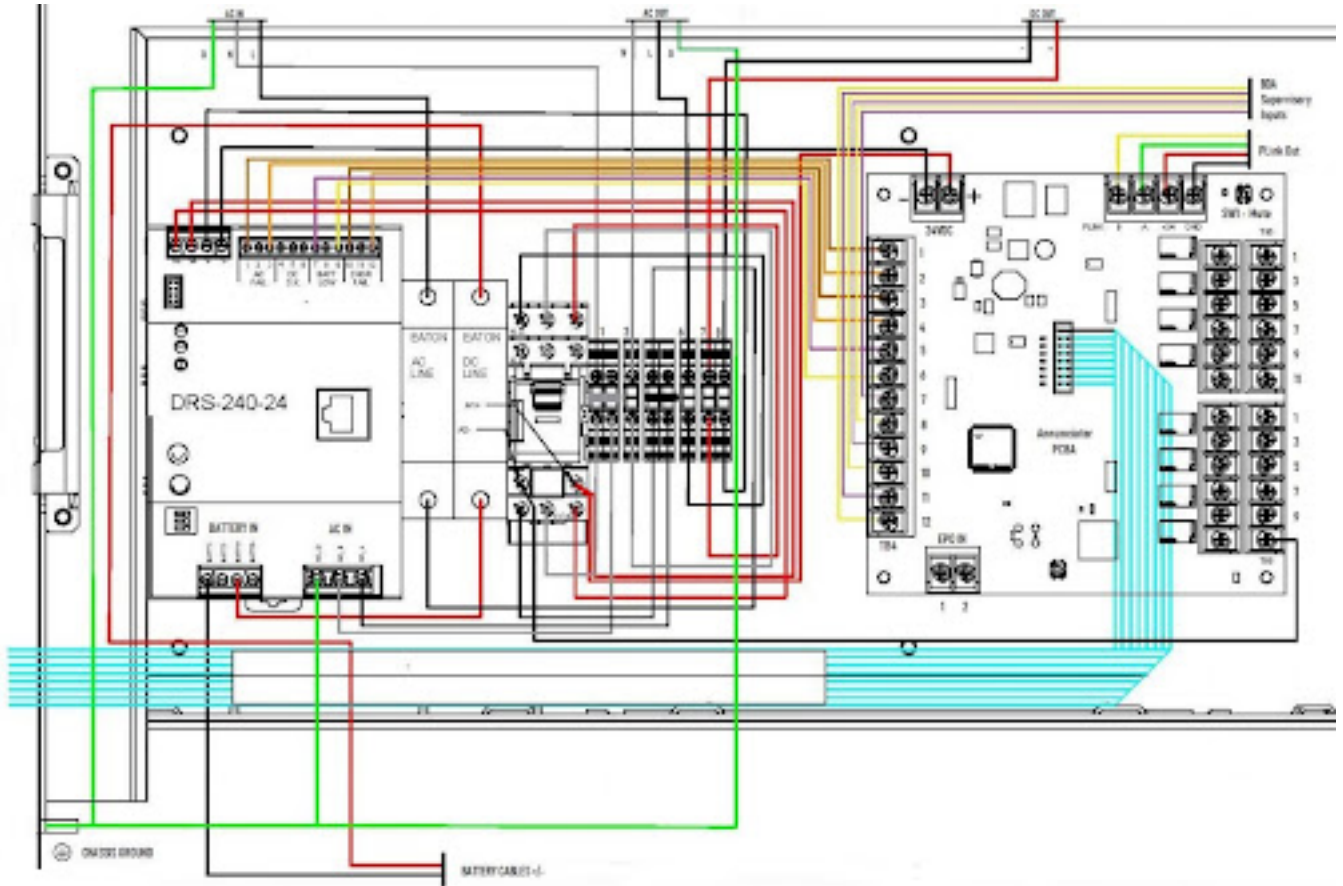

Figure 5
The Guardian BBU also provides an integrated UL2524 3rd edition and NFPA 1225 compliant annunciator function with LED supervisory indications on the front door assembly. An associated audible sounder is also provided for each supervisory indication that can be silenced via a mute button (SW1 – Annunciator PCBA, see Section 7.3 Figure 5) located within the lockable enclosure. The audible alarm will resound if muted every 24 hours until the supervisory condition is resolved.
5. Connect AC Input (115VAC-220VAC 50/60Hz) power cable to the BBU AC Circuit Breaker Load (L), DIN rail mounted terminal block Neutral (N), and enclosure labeled Ground (G) post as shown in Section 7.3 Figure 5 and described in Section 7.3.1 Item 1. The AC source must comply with all local and national building and fire codes. **DO NOT ENGERGIZE THE CIRCUIT UNTIL ALL CONNECTIONS BELOW ARE MADE AND VERIFIED.**
6. If required, connect the Guardian BDA to the BBU AC Output using the AC power cable supplied with the BDA (some Guardian BDA products require both AC IN and 24VDC). Connect the BDA power cable ground (G) to the labeled enclosure GND point (see figure 5), then connect the power cable Neutral (N) and Load (L) terminals to the respective DIN rail mounted terminal blocks as shown in Section 7.3 Figure 5 and described in Section 7.3.1 Item.
7. Connect the Guardian BDA to the BBU 24VDC output using the power cable supplied with the BDA. Connect the power cable (+/- DC) wires to the BBU DIN rail mounted terminal blocks as shown in Section 7.3 Figure 5 and described in Section 7.3.1 Items 2 and 3.
8. Connect the Guardian BDA dry contact alarm output (DONOR MALFUNCTION, RF EMITTER FAILURE, SYSTEM COMPONENT FAILURE) to the Annunciator PCBA alarm inputs as shown in Section 7.3 Figure 5 and Section 7.3.1 Item 5. The BDA supervisory alarm status will be shown on the front panel annunciator LED's in conjunction with an audible sounder.
9. If required by the AHJ, connect an EPO switch as shown in Section 7.3 Figure 5 and described in Section 7.3.1 Item 8. The EPO switch must be a latching type to work correctly. The EPO switch is not included with the BBU and must be purchased separately.
10. If remote annunciator(s) are required by the AHJ, connect the Potter Remote Annunciator panel to the Annunciator PCBA Plink connector as shown in Section 7.3 Figure 5 and described in Section 7.3.1 Item 6. The Potter P-link 4 wire RS485 interface may be used only with the Potter Guardian Annunciator. Up to 16 Guardian Annunciators may be connected in series with a maximum line length of 6500 feet.
11. If using an annunciator from another manufacturer then the remote annunciator must be connected via the Annunciator PCBA dry contact outputs. See Annunciator PCBA Section 7.3 Figure 5 and description in Section 7.3.1 Item 9 for wiring details. Refer to the manufacturer's instructions for correct installation. EOL resistors may be required and are not provided with the Guardian BBU.
12. The Annunciator PCBA dry contact outputs can be utilized to connect to an FACP via vendor specific SLC interface modules. The dry contact outputs repeat the BBU integrated annunciator status to present the individual BBU and BDA supervisory indications or optional Summary supervisory indication to the FACP. See Annunciator PCBA Section 7.3 Figure 5 and description in Section 7.3.1 Item 9 for wiring details.
Supervision Test:	Disconnect backup battery via Battery Breaker Switch (see Section 7.3 Figure 5). Make sure that LED and relays indicate Battery Low and Charger Failure. Reconnect batteries. Disconnect AC via AC Breaker Switch (see Section 7.3 Figure 5). Make sure that LED and supervisory relays indicate AC loss and Charger Failure. Detection/restoration of the fault condition may take up to 30 seconds.
Battery Test:	Under normal load conditions, check that the battery is fully charged. Check specified voltage both at the battery terminals and at the Power Supply Battery – terminal and Battery Breaker Terminal to ensure that there is no break in the battery connection wires. (See Section 7.3 Figure 5 for wiring details.)
Once installed follow the wiring instructions as shown in Section 7.3 Figure 5 and Section 7.3.1 Item 9 and the installation instructions provided with the PAD300-10XIM module.